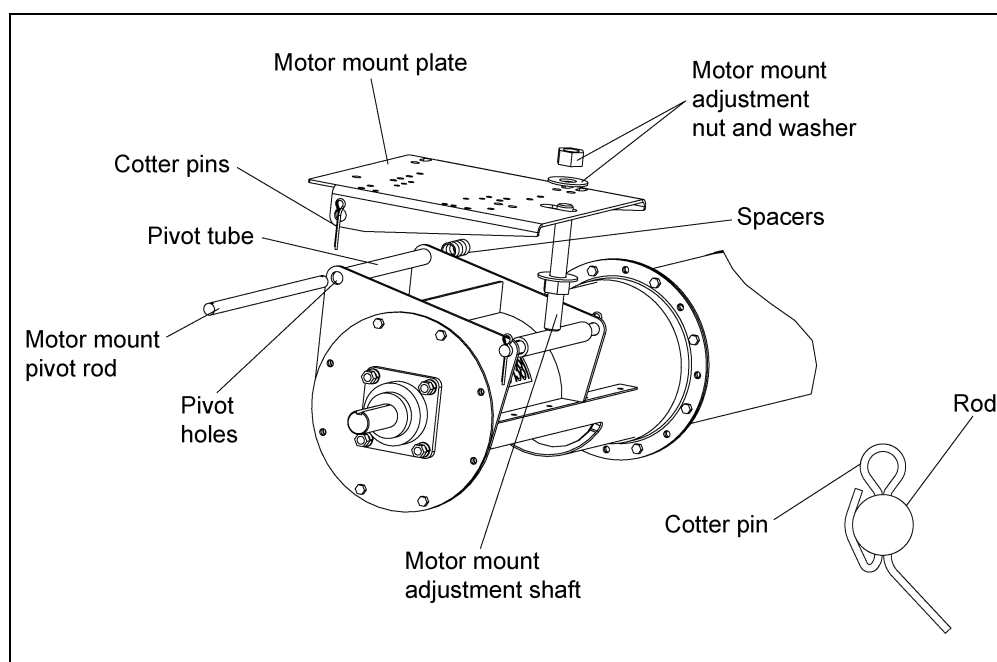

Figure 4K
- Secure one (1) of the motor mount adjustment nuts and one (1) the motor mount adjustment washers approximately 3/4" of the way down the motor mount adjuster's threaded shaft.
- Once the nut and washer is secure, slip the motor mount plate over the adjuster and align the pivot holes with the pivot tube. *(See Figure 4K.)*